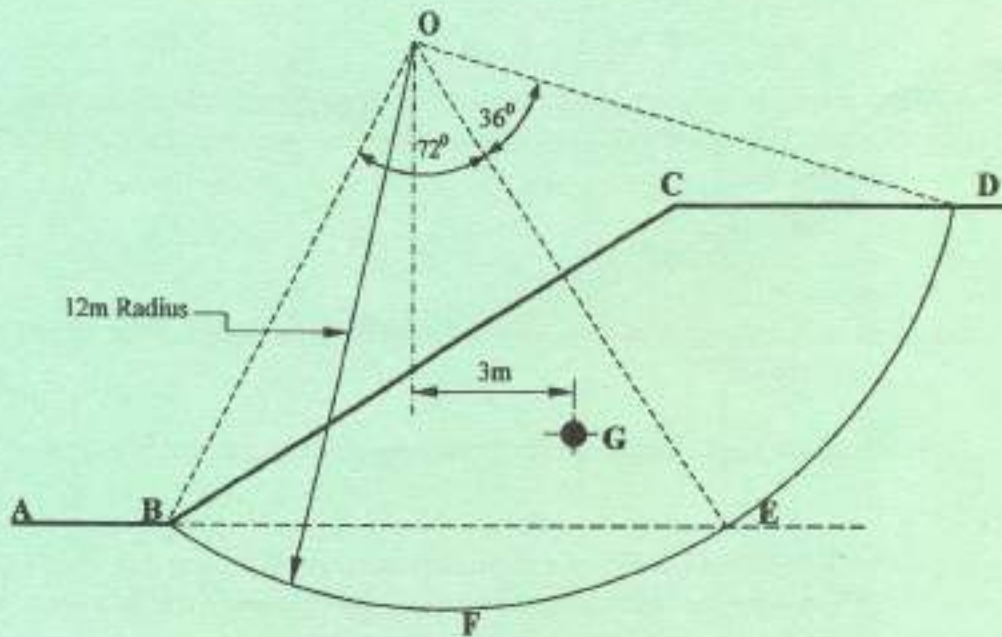

Fig 3
- (b) Figure 3 shows a section of a clay bank, in which a trial slip surface BFED is chosen in the form of a circular arc of radius 12m. The area of the figure BCDEF is  $93\text{m}^2$  and its centroid is at G. The average density of the soil is  $1800\text{kg/m}^3$ . Above the level ABE the cohesion of the soil is  $20\text{kN/m}^2$ , and below this level, the cohesion is  $32\text{kN/m}^2$ . Estimate the factor of safety on this assumed surface, taking  $\phi = 0$ . (6 marks)